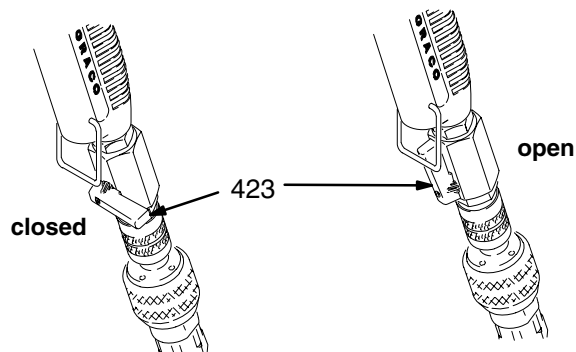

Fig. 11
2. Close the gun air valve (423); the system primes easier if no air is supplied to the gun. See Fig. 11.
5. Turn the ON/OFF switch (D) OFF.
6. Open the gun air valve (423) to relieve the compressor air. See Fig. 11.